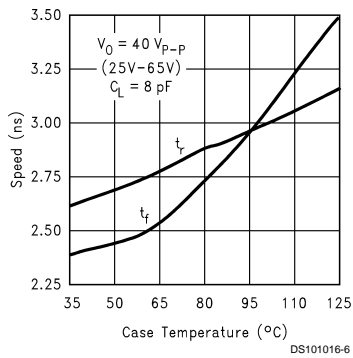

FIGURE 4. Speed vs Temp.
*Figure 4* shows the performance of the LM2402 in the test circuit shown in *Figure 2* as a function of case temperature. *Figure 4* shows that both the rise and fall times of the LM2402 become slightly slower as the case temperature increases from 40°C to 125°C. In addition to exceeding the safe operating temperature, the rise and fall times will typically exceed 3 nsec. Please note that the LM2402 is **never to be operated over a case temperature of 100°C**.